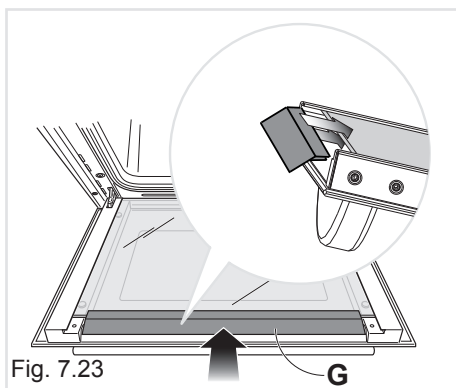

Fig. 7.23
- Gently push the air deflector "G" back into place (fig. 7.23).